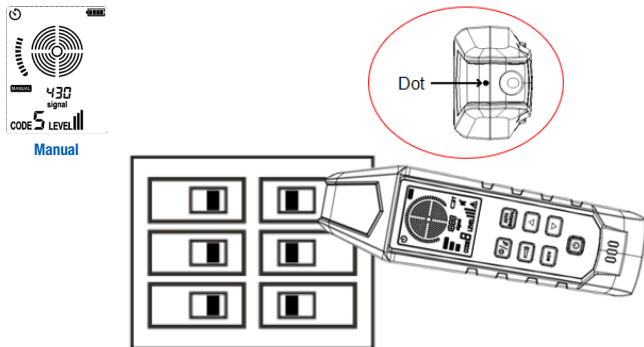

Figure 7.2.3b – Align the Dot to the Circuit Breaker
2. Align the dot on the top of the receiver to the circuit breaker, as shown in **Figure 7.2.3b**.